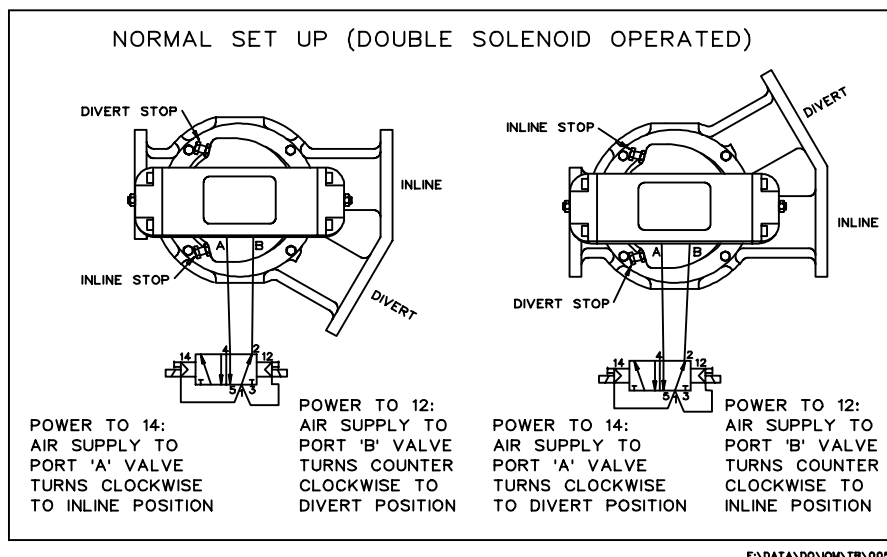

Fig 6
1.5 A double solenoid operated valve may be connected to the actuator, this will maintain the position of the valve in the event of a power failure (whichever that position may be), refer to figure 6.